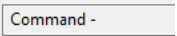

Figure 70
- Position the command text somewhere inside the command rectangle (Figure 70).